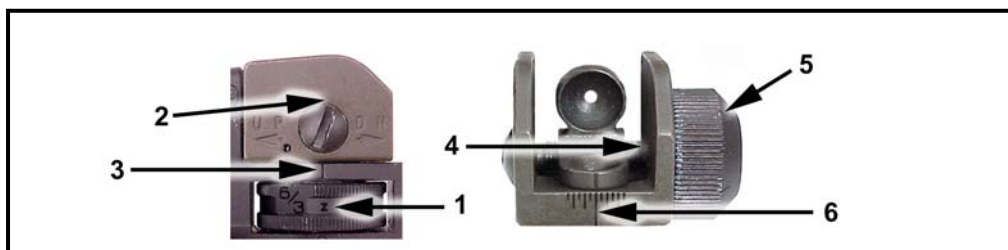

Figure 2-9. M16A4 MWS battlesight zero.
(2) **Battlesight Zero the M16A4 MWS.** If necessary, the soldier should battlesight zero the weapon as follows (Figure 2-9):